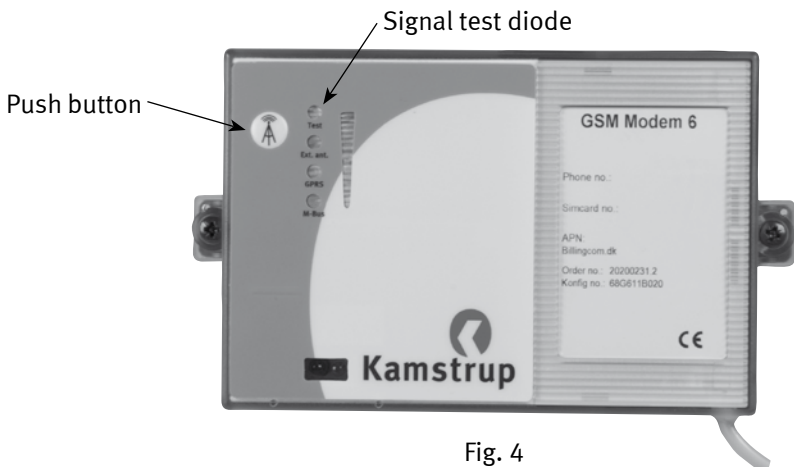

Fig. 4
1. Activate the push button for approx. 2 secs. (see fig. 4).
2. *The TEST diode now emits light constantly for approx. 10 secs. (see fig. 4), and the signal strength is indicated with flashes on a scale of 0 to 31:*